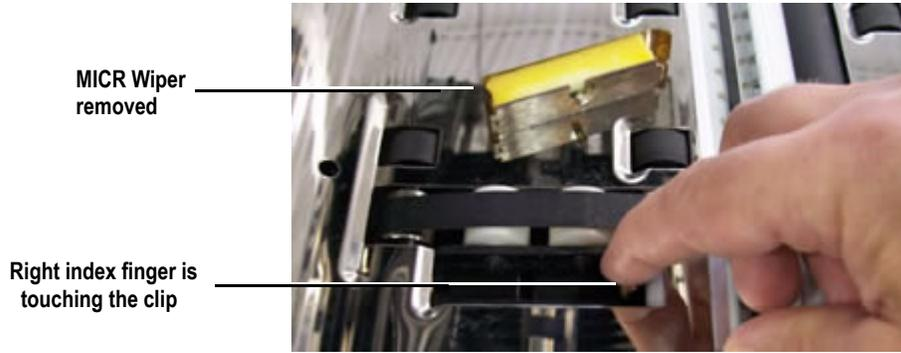

FIGURE 36: MICR Wiper removed
- 4 Open the MICR spring clip under the right side of the assembly and lift the wiper out of the machine. The clip can be seen in Figure 36.